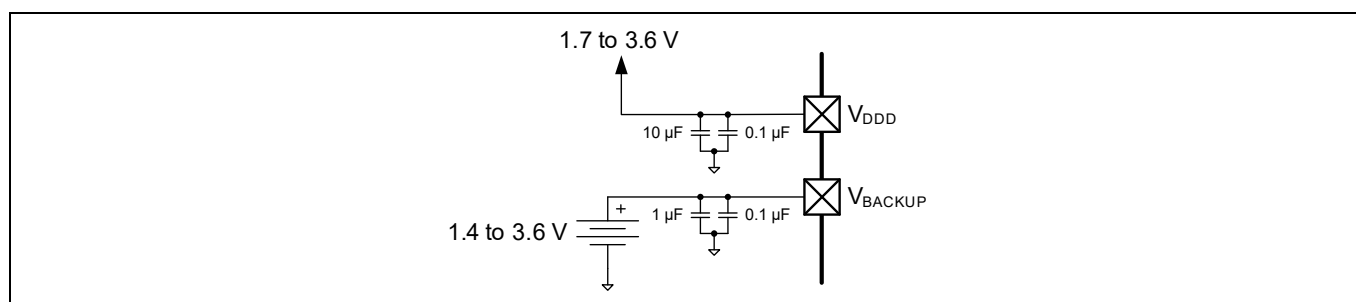

Figure 18 Separate battery connection to V_{BACKUP}
- V_{BACKUP} : the supply for the backup domain, which includes the 32-kHz WCO and the RTC. It can be a separate supply as low as 1.4 V, for battery or supercapacitor backup, as Figure 18 shows, otherwise it is connected to V_{DDD} . It powers I/O port 0.